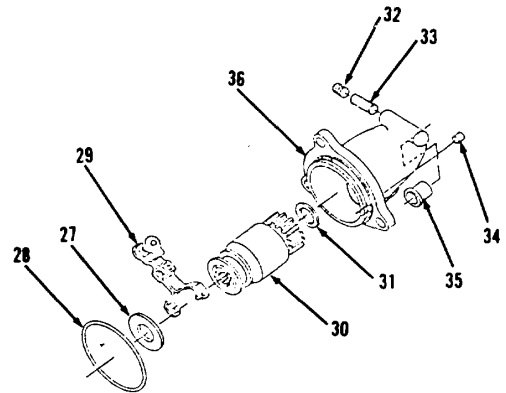
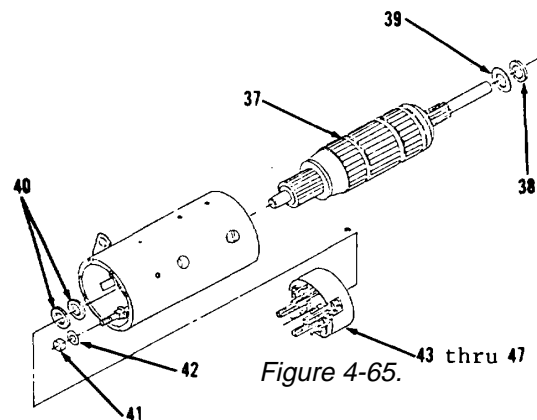

Figure 4-64.
Figure 4-65.
12. Using scribe, matchmark head (26) and housing (36).
13. Remove three bolts (25).
14. Remove head (26) from items 27 thru 36 as an assembly.
15. Remove washer (27, Figure 4-64).
16. Remove and discard preformed packing (28).
17. Remove yoke (29), drive (30) and washer (31).
18. Remove plug (32), wick (33) and plug (34).
19. Using brass driver and hammer, remove bearing (35).
20. Remove armature (37), washers (38 and 39) and two washers (40, Figure 4-65).
21. Remove spacer (41) and washer (42).
22. Remove items 43 thru 47 as an assembly.